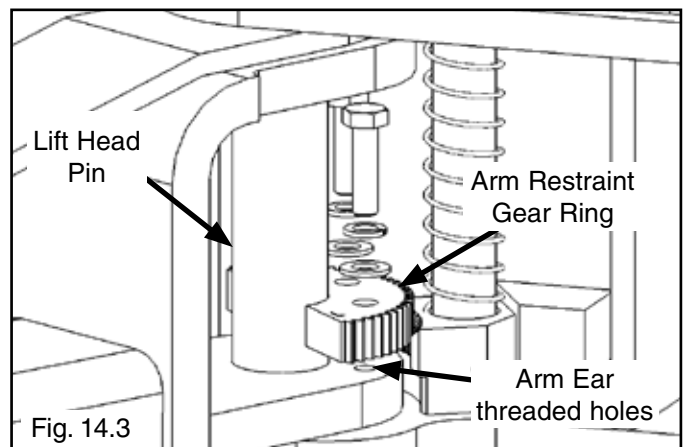

Fig. 14.3
4. Place each Gear Ring against the Lift Head Pin and align the holes in the Gear Ring with the threaded holes in the Arm Ears. Ensure that the teeth on the Gear Ring mesh smoothly with the teeth on the gears of the Lift Head. (See Fig. 14.3)